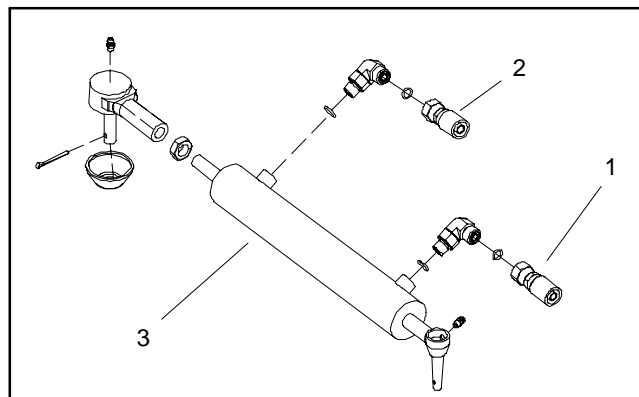

Figure 68
5. Disconnect hydraulic hoses from steering cylinder (Fig. 68). Allow hoses to drain into a suitable container.
8. Lubricate new O-rings and connect hydraulic hoses to steering cylinder (Fig. 68). Tighten hose connections (see Hydraulic Hose and Tube Installation in the General Information section of this chapter).